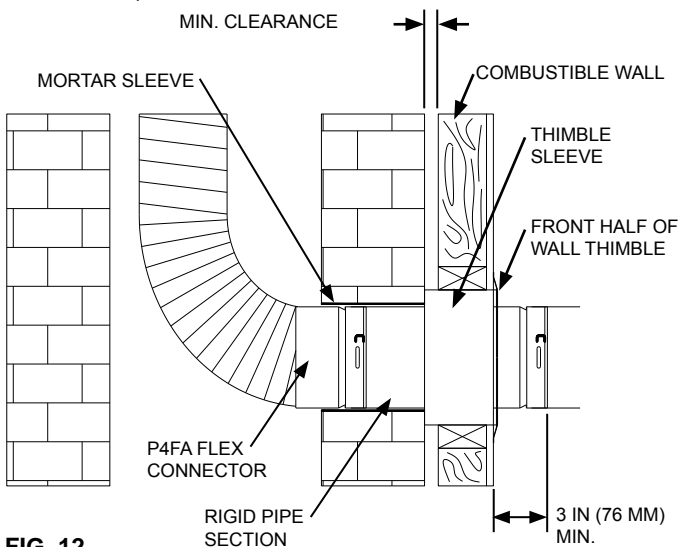

FIG. 12
Step 3: Insert liner into masonry chimney as described in these instructions. Attach the **P4FA** Flex Connector to the bottom end of liner and secure with three (3) #8 x 1/4" (M4 x 6 mm) sheet metal screws.
Step 4: After liner is installed, attach a section of rigid pipe to flex connector (**be sure flow arrow is pointed in correct direction**) and secure with twist lock (See **FIG. 12**).
Step 5: The thimble sleeve will need to extend through the combustible wall and be flush with masonry. Pull the sleeve extension out to required length and secure extension to sleeve with screws. Slide wall thimble over rigid pipe and insert into combustible wall opening. Secure thimble to wall with fasteners. **Rigid pipe must extend out past combustible wall a minimum of 3 inches (76 mm) as shown in FIG. 12.**